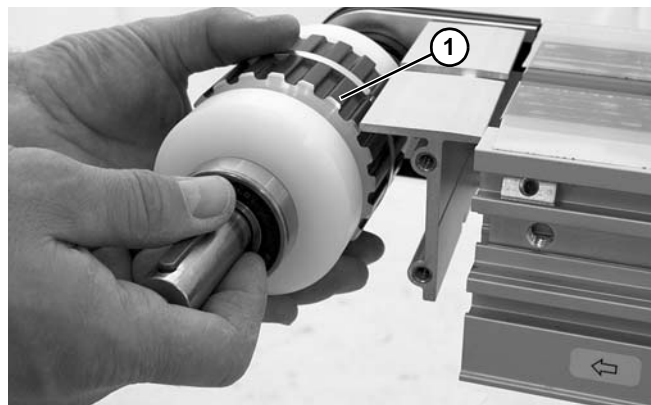

Figure 45
7. Slide the drive pulley (**Figure 45, item 1**) out of the headplate on the opposite side.